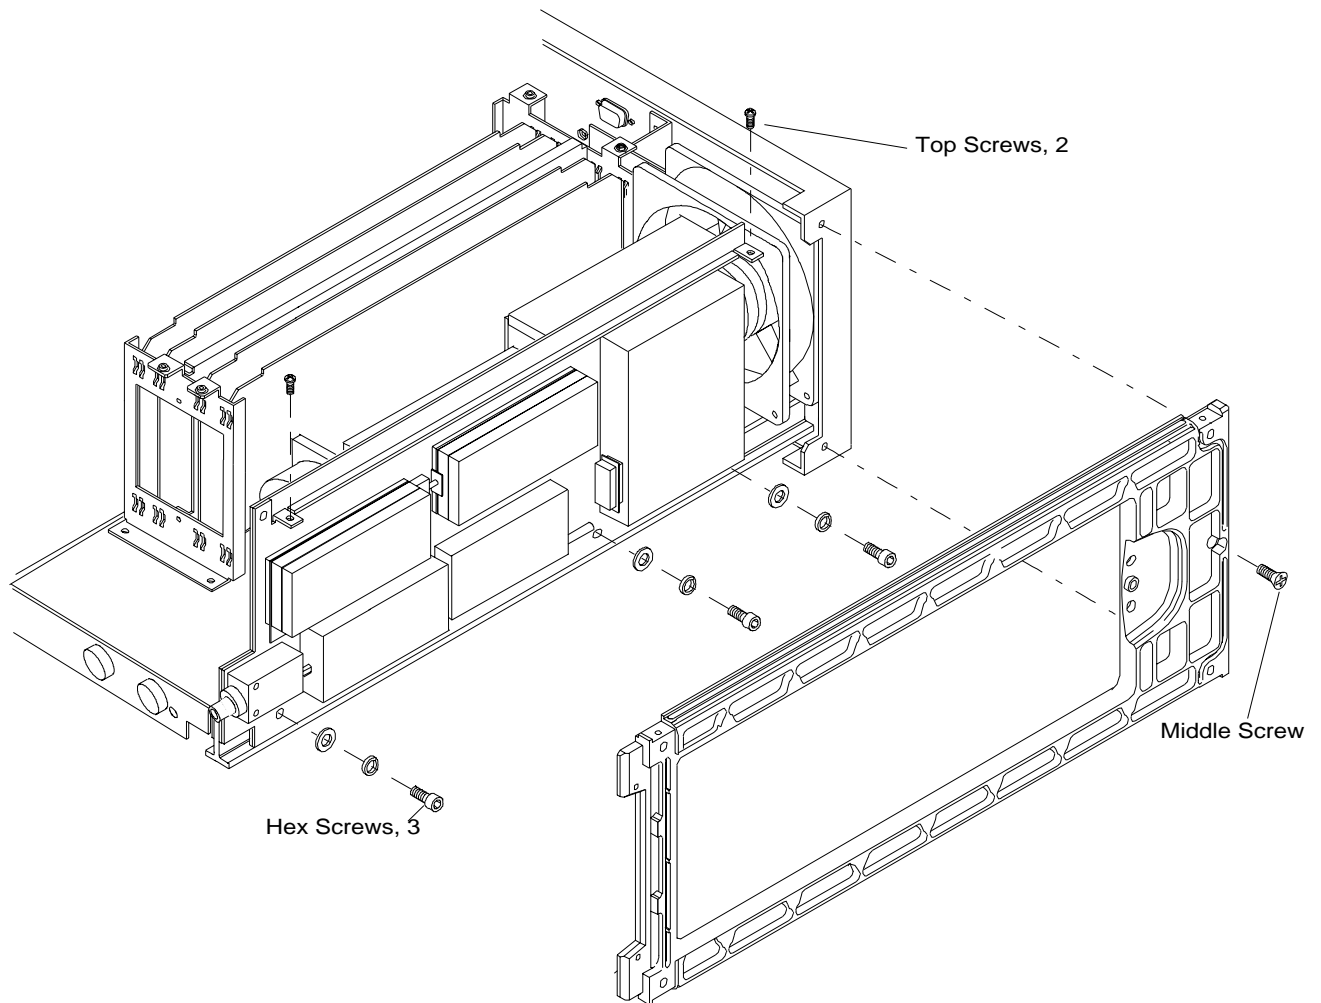

Figure 7-10. RF Deck Removal/Replacement
- Step 3.** Remove the one screw from the middle-rear of the bracket; remove two screws from the top of the bracket (Figure 7-10).